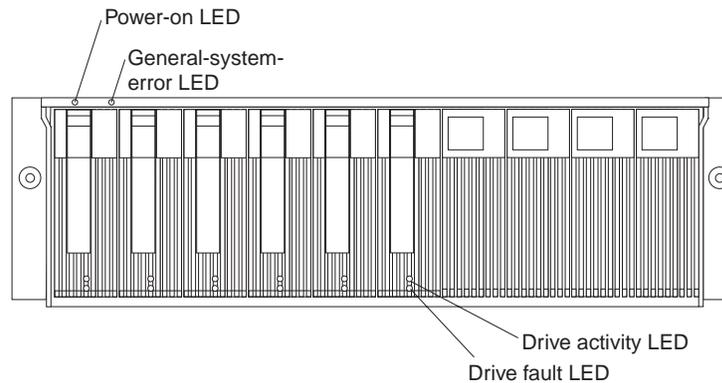

Figure 1. Storage server LEDs (front)
- Figure 1
Each drive CRU has two LEDs, which indicate the status for that particular drive. For information about the drive LED operating states and descriptions, see Figure 1 on page 12 and Table 3 on page 12.